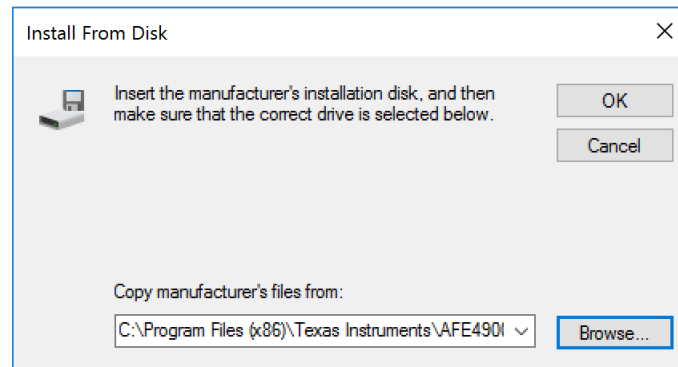

Figure 32. USB Driver Installation – Screen 5
6. As shown in Figure 32, navigate to the directory where the AFE44xx.inf file is located by clicking the **Browse** button. The file is located at the following path *C:\Program Files(x86)\Texas Instruments\AFE4900EVM GUI\USB Driver*